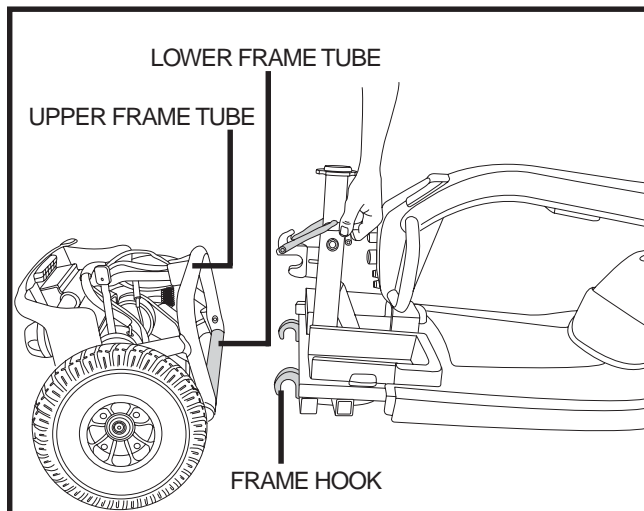

Figure 25. Frame Separation
2. Lift the front section up until the frame hooks of the front section separate from the rear section. See figure 25.
3. Slowly separate the two sections. See figure 25.
1. Position the front and rear sections of your scooter as shown in figure 25.